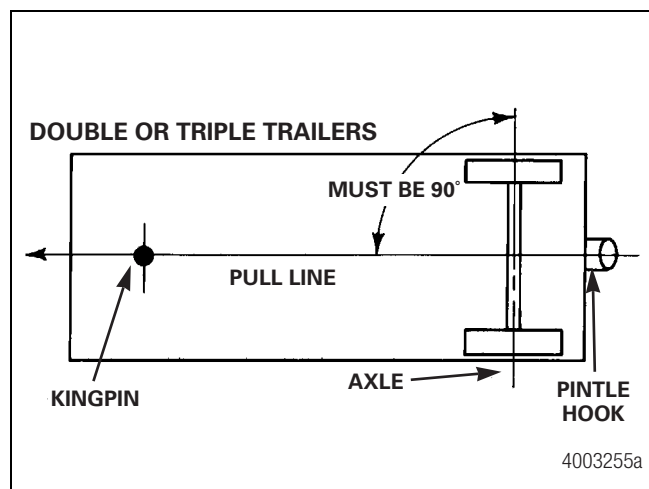
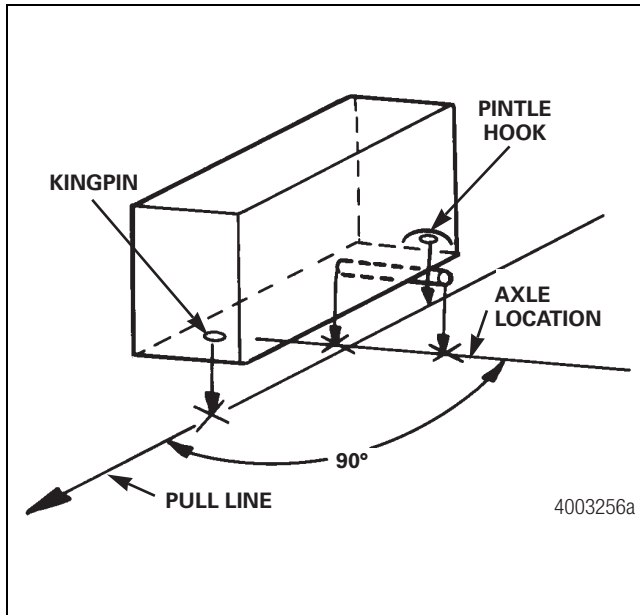

Figure 8.11
Figure 8.12
- Hang plumb lines from the exact centers of the kingpin and pintle hook. Establish the trailer pull line by marking these points on the floor and snapping a chalk line through them. Figure 8.11 and Figure 8.12.